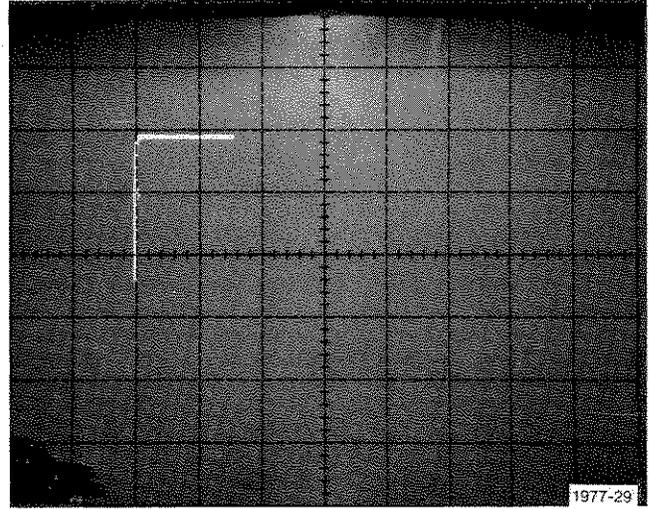

Fig. C-11. Display of maximum output sink current.
c. Turn the Variable Collector % control slowly clockwise until a knee appears on the trace as shown in Fig. C-11. The current represented by the knee of the curve is the maximum that the particular device under test is capable of passing, in this case about $90 \mu\text{A}$.